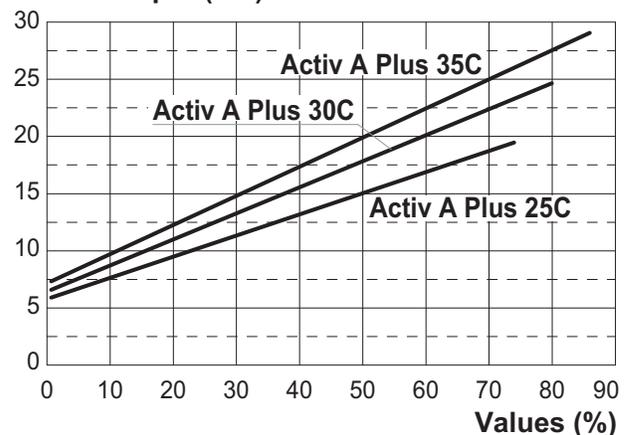
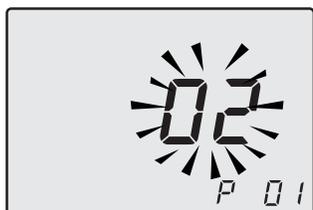
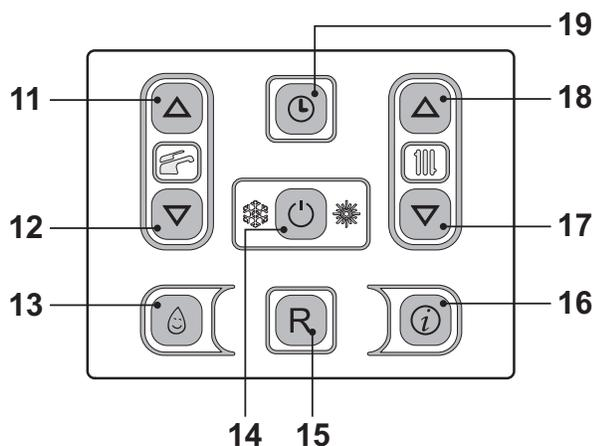

Fig. 7.45
Fig. 7.46
Fig. 7.47
Refer to Fig. 7.45 and determine the correct Value appertaining to the output required for the central heating requirement.
- Enter the "programming mode" by pressing keys 14 - 17 - 18 (Fig. 7.47) for 10 seconds at the same time until the letters **P01** are displayed on the LCD display, indicating that "parameter 01" (Fig. 7.46) has been activated.
- It is possible to modify parameter using keys 11 or 12 (Fig. 7.47) (Refer to Fig. 7.45 and
- By pressing key 14 (Fig. 7.47) confirmation of the inserted value is obtained.
- Press keys 17 or 18 (Fig. 7.47) to exit without changing the value.